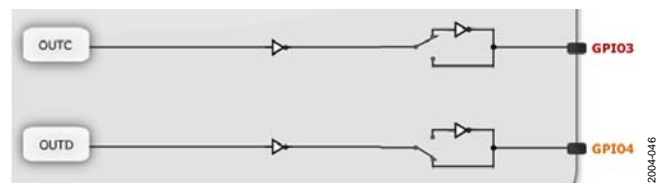

Figure 50. Option 4: GPIO3 and GPIO4 Configured as Active Snubber PWM Outputs
- Option 4: Both GPIO3 and GPIO4 are configured as active snubber PWM outputs (see Figure 50).